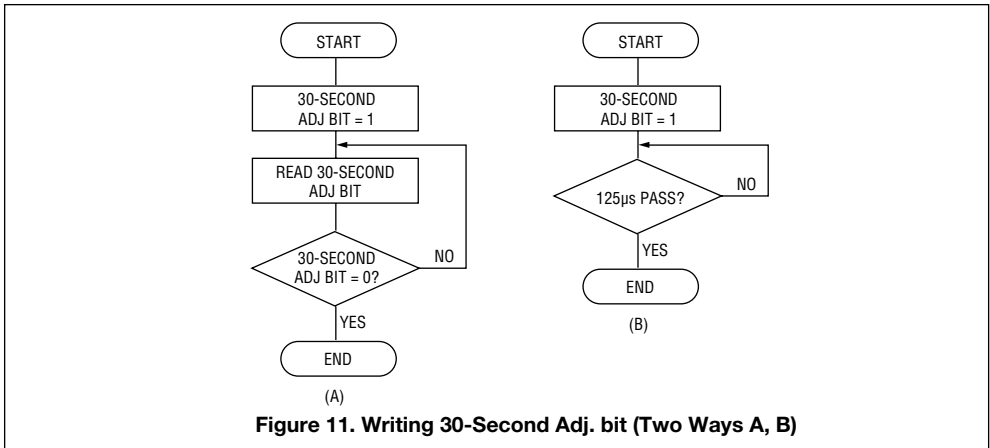

**Figure 10. Reading and Writing of Registers S1 ~ W**
- b) BUSY (D1) – Status bit which shows the interface condition with microcontroller/microprocessors. As for the method of writing into and reading from  $S_1 \sim \bar{W}$  (address  $\phi \sim C$ ), refer to the flow chart described in Figure 10.